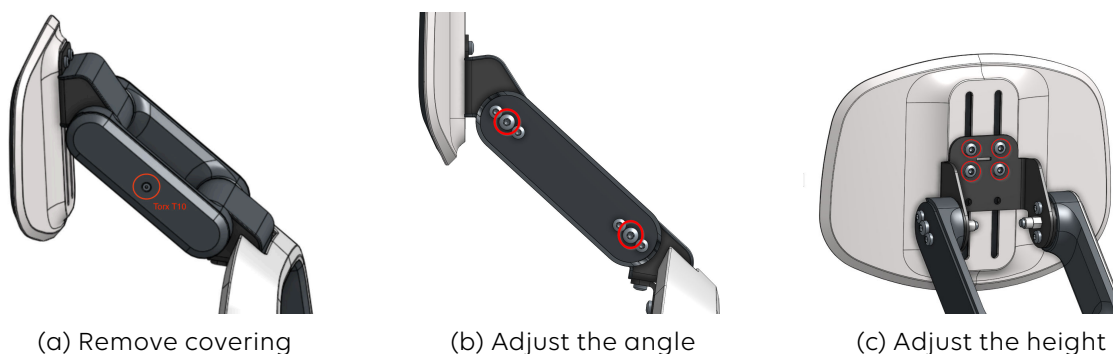

Figure 23. Screw Lock head support adjustment
2. Loosen all four screws on the locking discs (larger screw in the center) (on each side). (Figure 23, "Screw Lock head support adjustment" [32]). Do not remove the screws completely.
2. Loosen all four screws (Figure 23, "Screw Lock head support adjustment" [32]). Do not remove the screws completely.